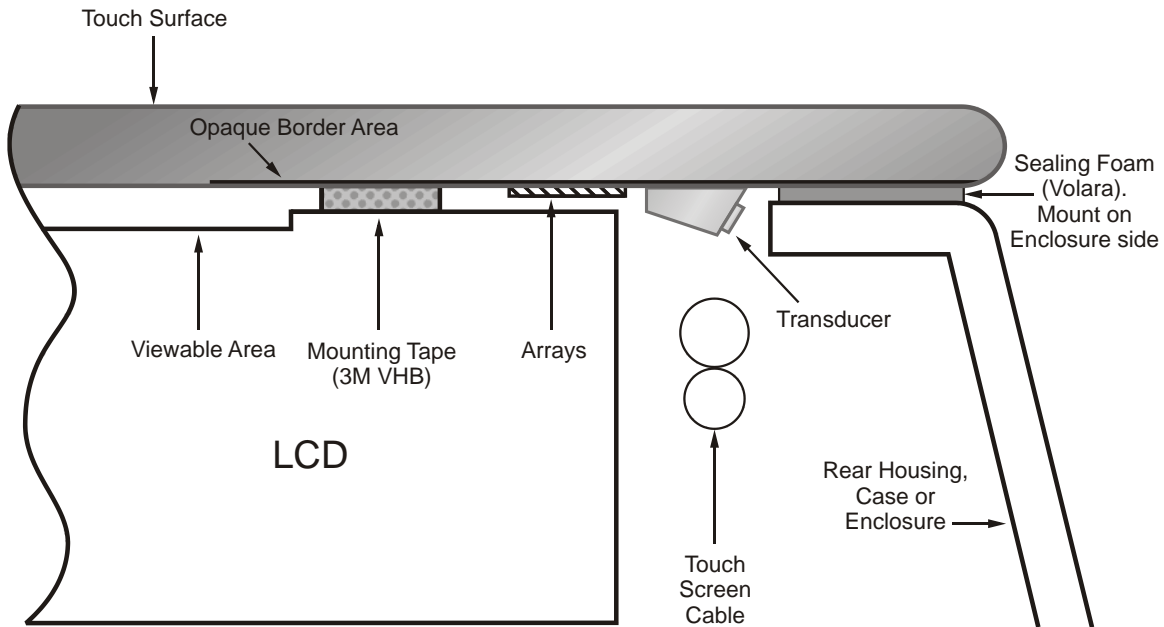
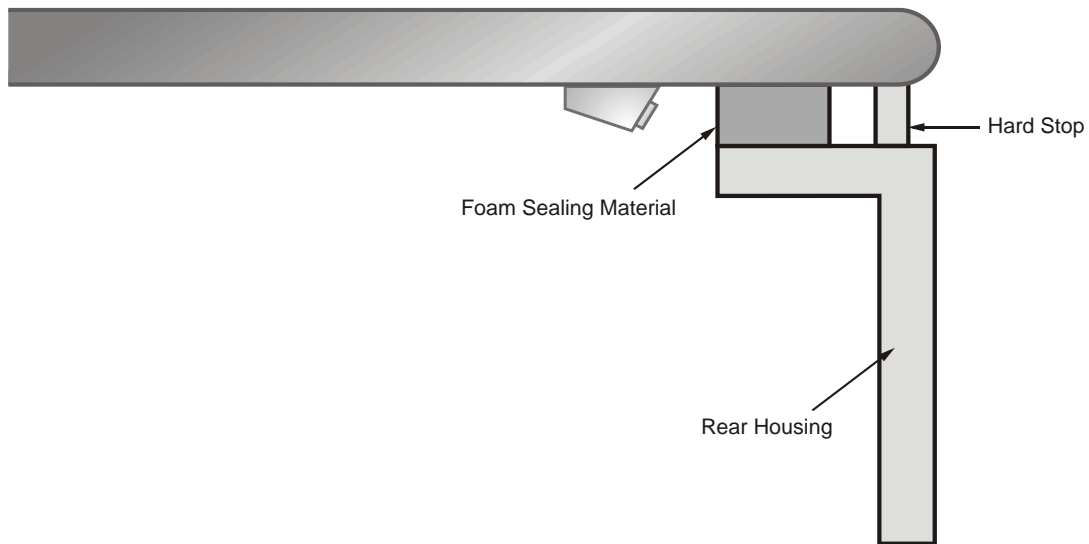

Figure 2-2. Reference Integration Design (not to scale)
Figure 2-4. Integration with a hard stop
Several options exist for mounting and sealing the screen. The cross-section of a reference integration design for an IntelliTouch® ZB touchscreen is illustrated in Figure 2-2. It is the simplest method of integrating a standard off-the-shelf or custom IntelliTouch® ZB screen. Important elements of the integration are described in the sections that follow.
The following design considerations are based on the integrated design in Figure 2-2.
In the integrated design shown in Figure 2-2, the IntelliTouch® ZB screen is mounted directly onto the metal of the LCD. This design minimizes the space between the touch screen and the LCD, thus minimizing parallax. Please note that the tape applied by Elo is intended for this mounting solution.
The integrated design (Figure 2-2) has an enclosure beneath the surface of the touch screen so that the edge of the touchscreen is exposed. This is the simplest solution and makes the touch system easy to seal and clean.
A seal is recommended around the edge of the touchscreen to keep dust and spills from affecting array functionality. In the integrated design, a seal is created with low density foam (Figure 2-2). The foam should be adhesive on one side only; the foam must be adhered to the rear housing or sub-bezel, not to the touchscreen. Elo Touch Solutions recommends Volara® 2A, 2E, 4A, and 4E manufactured by Voltek®. A hard stop is advised to control the maximum compression of the seal (Figure 2-4). The screen can be sealed to IPX-1 rating with this foam.
- Sealing material dimensions recommended are 2-4 mm wide and 2-3 mm thick. For a foam seal, the foam should compress to a level that is between twenty and fifty percent of its initial height. Uniform compression around the touchscreen is ideal. A hard stop should be molded into your housing to control compression. See the example below in Figure 2-4.